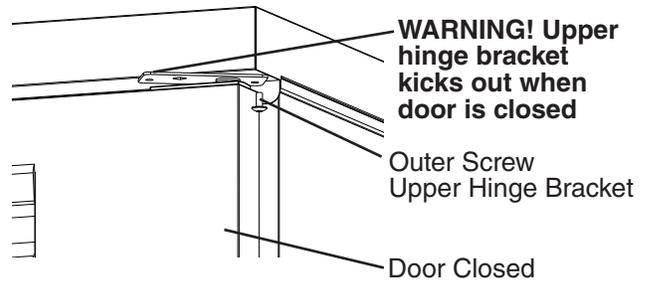

Fig. 7
- 3) Close the door. **WARNING! Keep away from upper hinge bracket. Upper hinge bracket kicks out when door is closed.** See Fig. 7. Remove the outer screw from the upper hinge bracket.